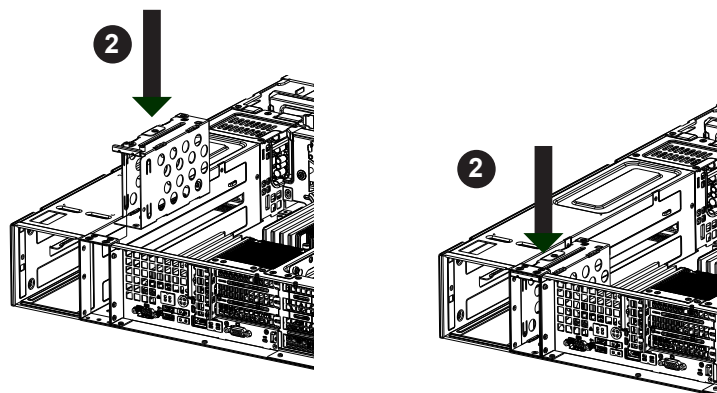

Figure 3-19. Installing the Rear 2.5" Hard Drive Cage
2. Orient the rear hard drive cage as shown (Figure 3-19), aligning the opening at the end of the cage with the opening at the back of the chassis.